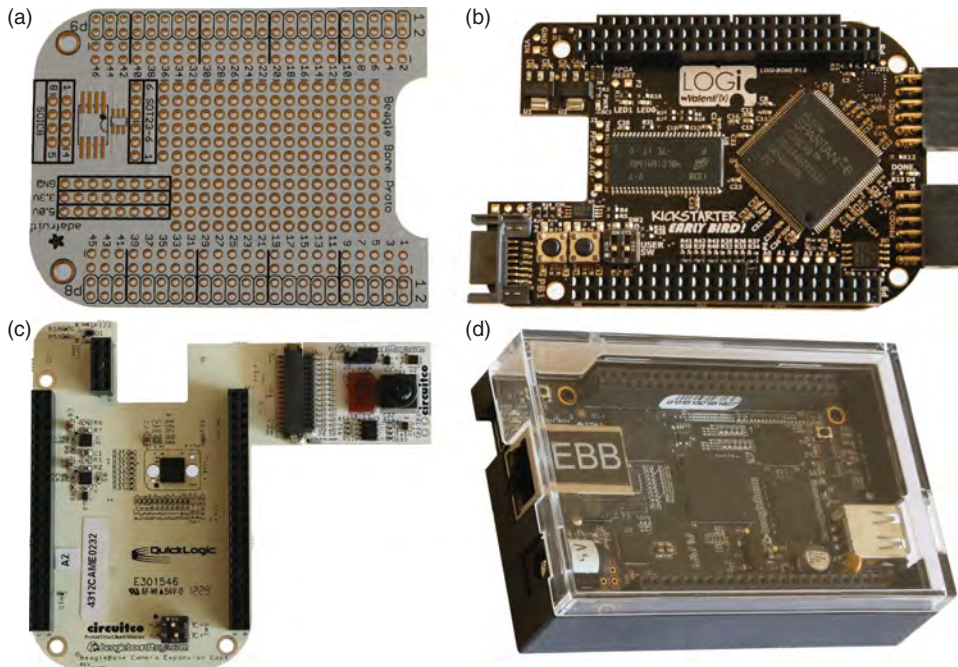

Figure 1-10: (a) The Proto cape; (b) Valent F(x) LOGi-Bone; (c) Camera cape; and (d) Adafruit BBB case
More than 50 capes are currently available for the BeagleBone; a full list can be found at www.beagleboard.org/cape. Here is a selection of some example capes that you might find useful in your projects (see Figure 1-10):
- Do not place a powered BBB on metal surfaces (e.g., aluminum-finish computers) or on worktops with stray/cut-off wire segments, resistors, etc. If you short the pins on the P8/P9 headers you can easily destroy your board. You can buy a case from suppliers such as Adafruit (see Figure 1-10(d)). Alternatively, you can attach small rubber feet to the BBB.